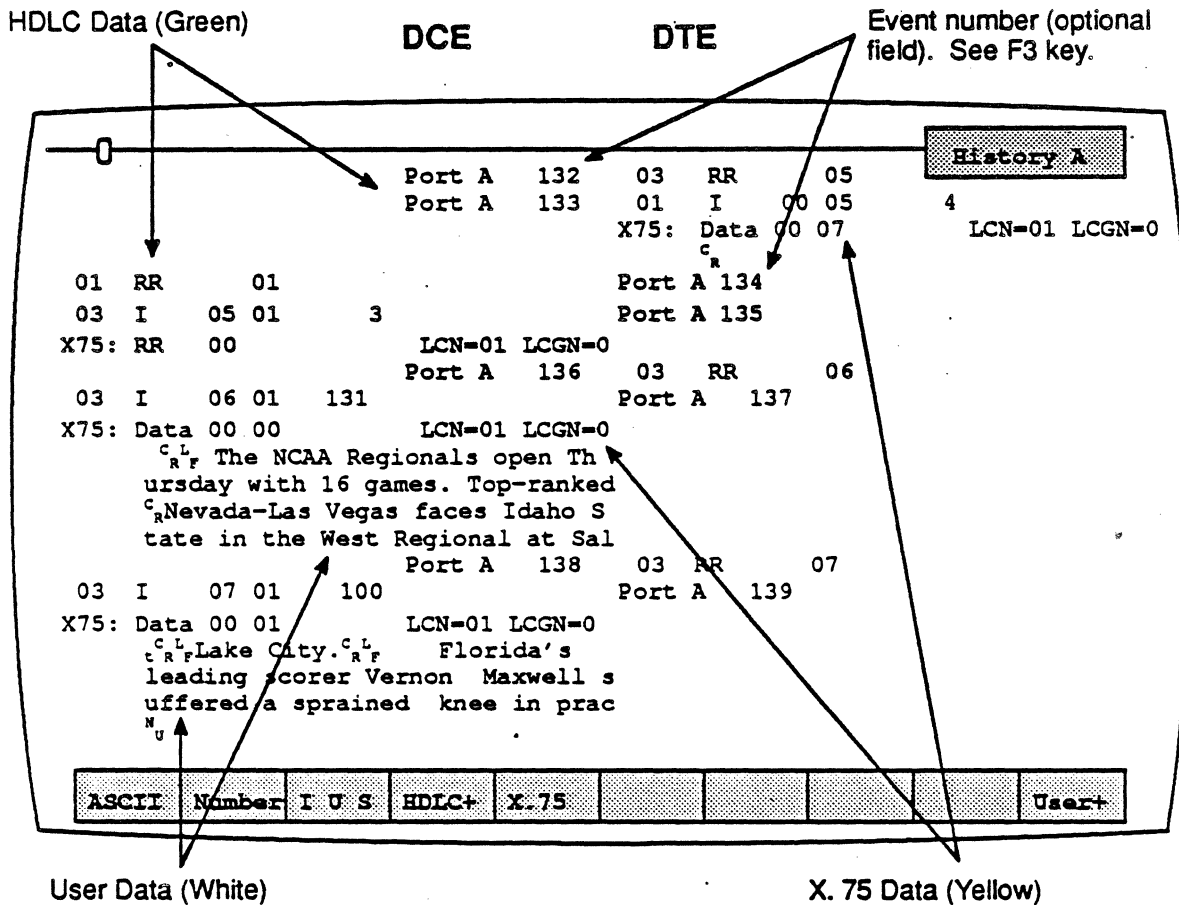

Figure 3.2: Analysis History Page with Sample X.75 Traffic
The display format and function keys are the same for both pages, as shown in Figure 3.2. The page components are described on the following pages.
**F2** determines the acquisition information display format, which is displayed in green or white in the center of the screen, between the DCE and DTE sides (see Figure 3.2). The options are: